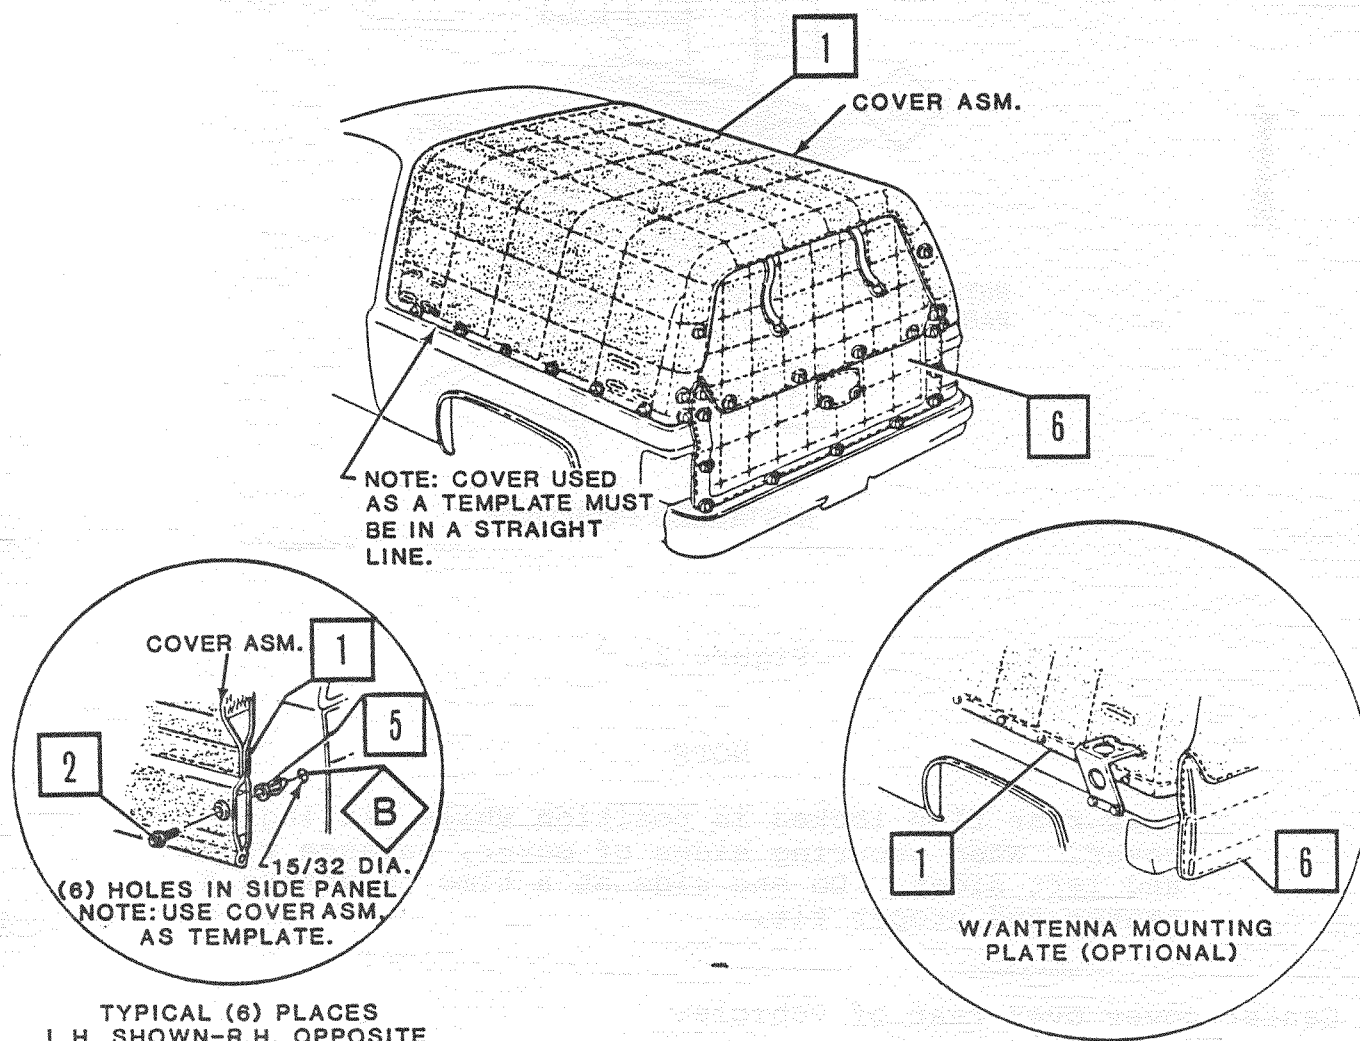

Figure 3.
9. Mark holes through center of holes in sides of cover, while keeping metal inserts in cover aligned and straight (Figure 3.).
10. Center punch and drill 15/32 inch holes on right and left sides of vehicle (Figure 3.).
11. Apply sealer and install jacknuts in holes (Figure 3.).
12. Install antenna mounting plate through holes in cover with bolts (Figure 3.). Tighten bolts to 124-168 lb.-in. (14.0-19.0 Nm).